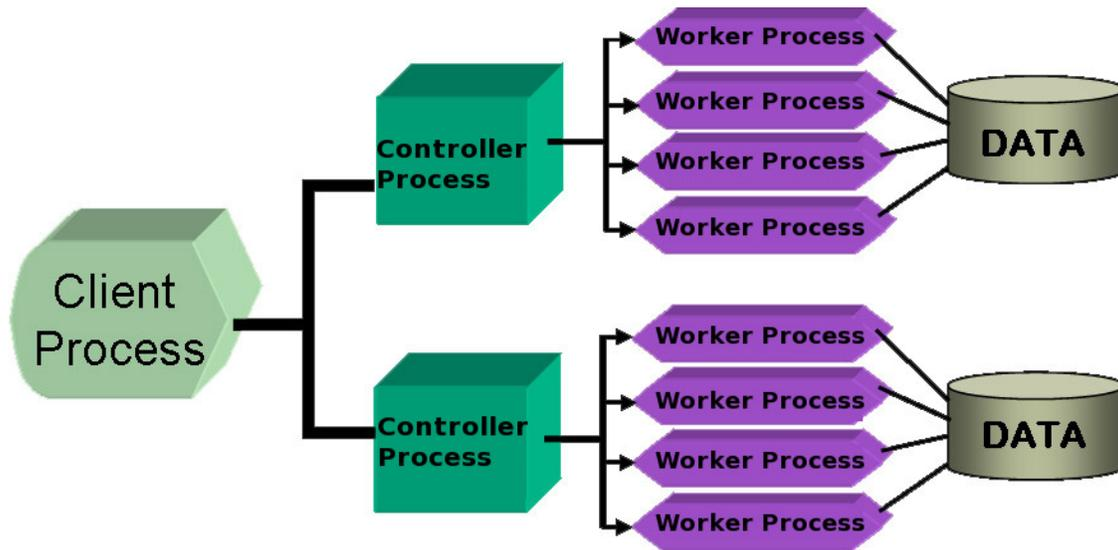

Figure 4: FV Parallel with Licensed Controller Processes
For the case of **FieldView** Parallel, following what is done for Client-Server, it is possible to run an unlimited number of server 'Controller' processes. What is licensed with the **FieldView** Parallel license is the total number of Worker Processes which can be run; the Controller processes are not counted towards this limit. In the example above (see Figure 4), we illustrate how it is possible to read two different datasets using a total of eight (8) worker processes, applying four (4) worker processes to each dataset. To do this, a **FieldView** Parallel license for 8 processes would be required.